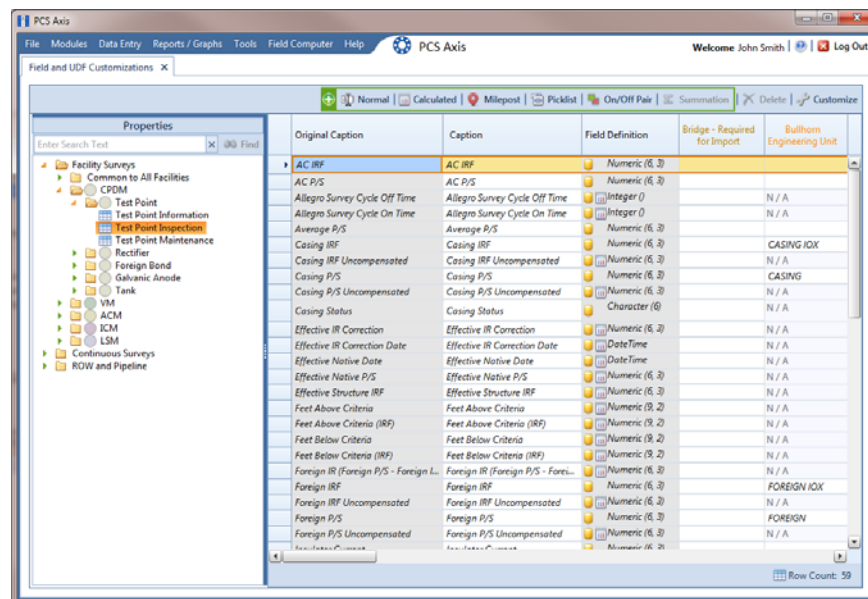

Figure 3-44. Field and UDF Customizations
- 1 Click **Tools > Field and UDF Customizations** to open the *Field and UDF Customizations* window (Figure 3-44).
- 3 Select an item in the *Properties* panel that includes the data entry grid you want to add a *Dynamic Picklist* UDF. For example, double-click **Facility Surveys > CPDM > Test Point > Test Point Inspection** to display a grid with fields and property settings related to the *Test Point Inspection* data entry grid (Figure 3-44).
- 1 If the *Field and UDF Customizations* window is not open, click **Tools > Field and UDF Customizations** to open the window (Figure 3-44, page 91).